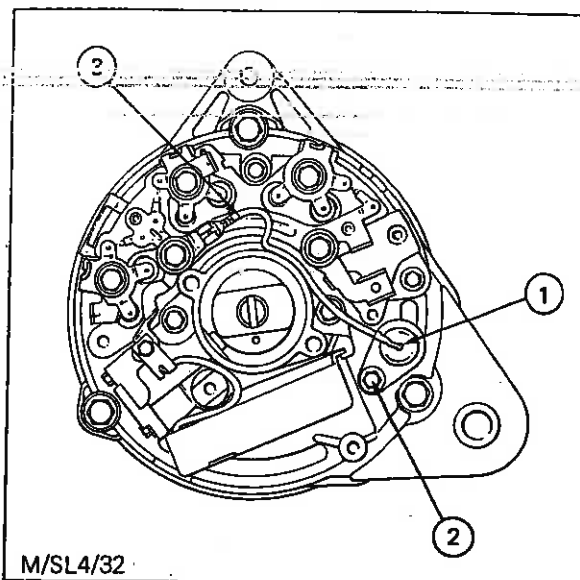

Fig. 54 - Replacing the Surge Diode
4. Place surge diode (1) in position and secure with screw (2) - see Fig. 54.